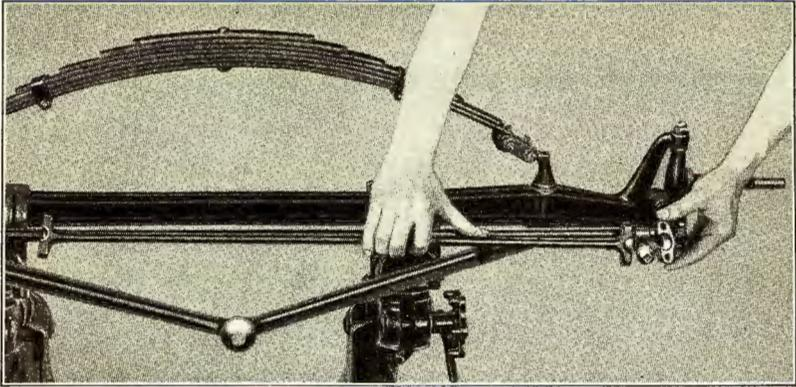

Fig. 374
- 693** Place a little cup grease in the ball sockets on each end of steering gear connecting rod and assemble rod to yoke ball by placing a ball socket cap over yoke ball (See Fig. 374), and assembling cap to socket by inserting the two bolts through cap and ball socket. When